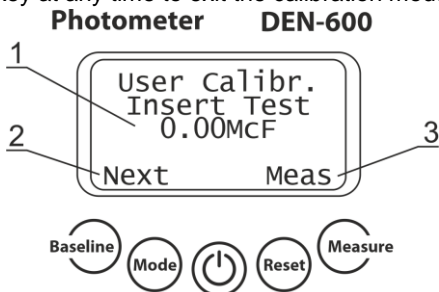

Figure 3. Creating user calibration.
5.6 **Creating McF user calibration (figure 3).**
- 5.6.5 Press **Baseline** key 5 times in McF mode to enter user calibration regime (figure 3).
- 5.6.6 Display shows the value of necessary standard (fig. 3/1).
- Insert the standard tube into the socket and press Meas (fig. 3/3, **Measure** key). Unit measures turbidity, display sequentially shows indications “Wait...” and the McF value in the lower line. After the measurement, next calibration point appears on display. Remove the standard tube and repeat.
- If the displayed standard is not available, press Next (fig. 3/2, **Baseline** key) to skip to the next standard.
- If the calibration was not successful, display shows “Data Error” before restarting the calibration procedure (figure 3).